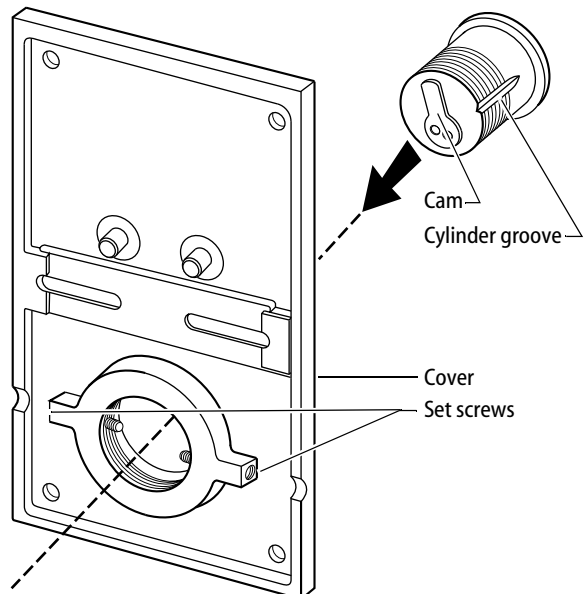

Figure 9
- 1 Install the cylinder and ring onto the cover. With the cam in the vertical position, tighten both cover set screws into the cylinder grooves. See Figure 9.